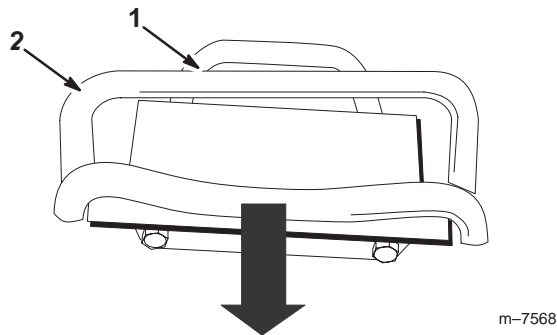

Figure 34
3. Pull straight back on the traction control so the front of the control contacts the reference bar (Fig. 34).